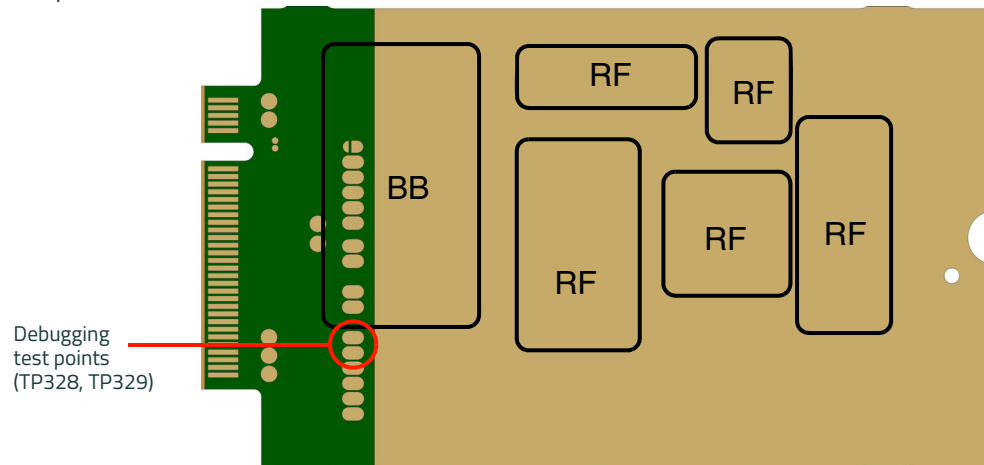
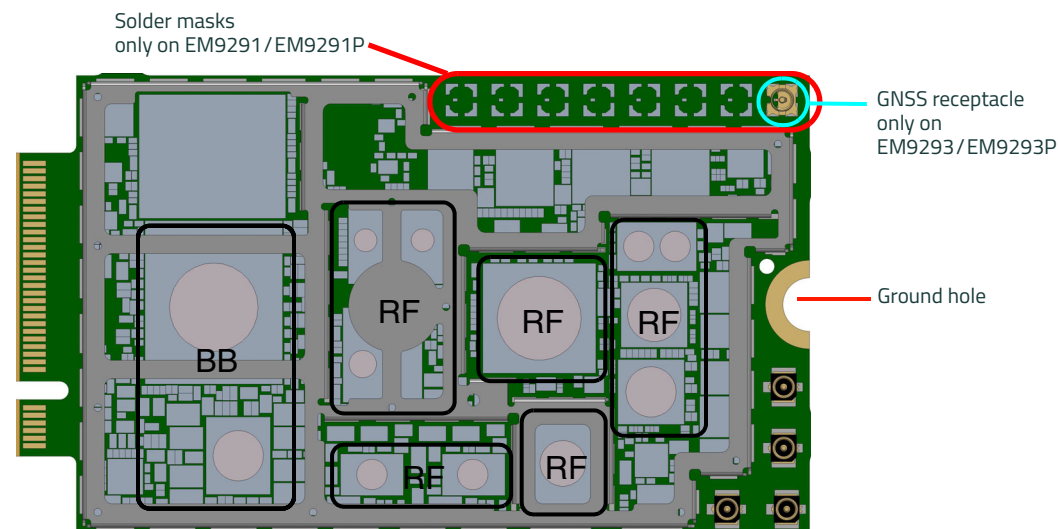

Figure 6-6: Regions requiring thermal dissipation (Bottom view)
Figure 6-7: Regions requiring thermal dissipation (Top View)
Sierra Wireless recommends that the host device dissipate heat from the bottom surface of the module PCB and, if desired, from the top surface of the module shield. Figure 6-6 and Figure 6-7 display the locations of significant heat sources (BB — baseband components, RF — RF components) that require heat dissipation.
Note — Sierra Wireless recommends that the debugging test points (TP328 and TP329, see Figure 6-6) remain accessible for Sierra Wireless to assist in system debugging. Make sure the test points are not shorted to anything.
- Monitor temperature at all shield locations. Attach thermocouples to the areas indicated in Figure 6-7 on page 73 (RF, Baseband).